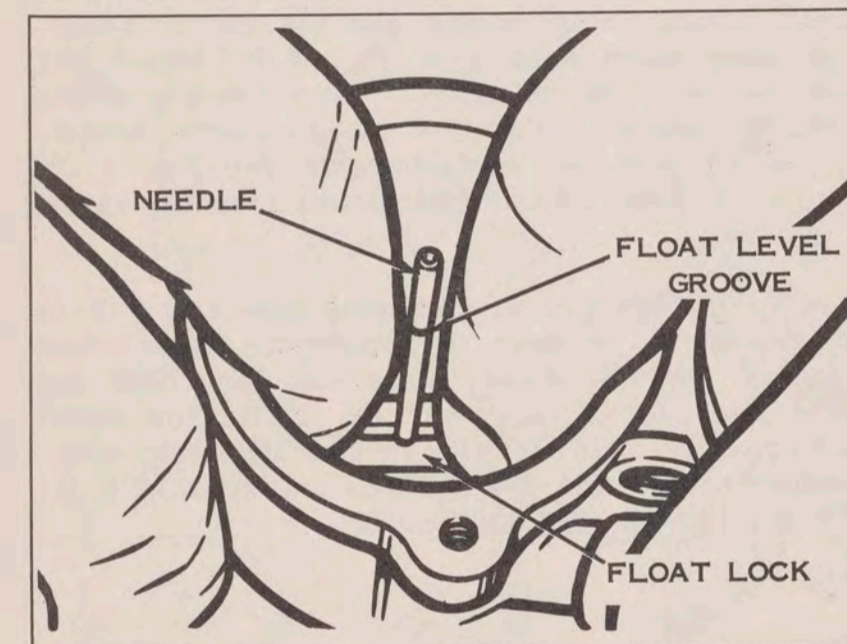

Figure 4-9. Installing Float Lock
b. Slide the bottom float lock down the needle until it snaps into position in the groove nearest bottom of bowl. (See figure 4-9.)